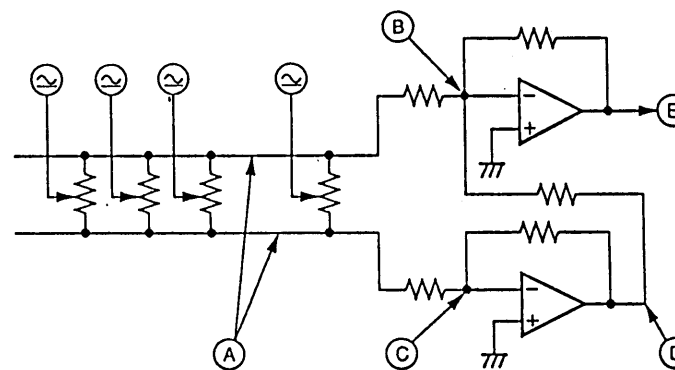

Figure 9-6: Summing Circuit
As illustrated in Figure 9-6, the summing circuit consists of summing amplifiers to add all the correction waveforms (inverted and non-inverted) that come from the variable resistors (A) in the matrix circuit (there are actually six summing circuits in the projection TV convergence circuit). The variable resistors (controls) in the matrix are used to correct geometric distortions and to converge the red, green, and blue rasters. Each waveform is applied to the taper of at least two controls. The correction waveform currents from the bottom side of each control are summed and applied to an inverter (C). The signals from the other side of each control and the inverted sum from point D are applied to the inverting input of the other summing amplifier (B), resulting in the convergence correction current at point E. This signal is amplified by the drive amplifier to drive the convergence yokes.